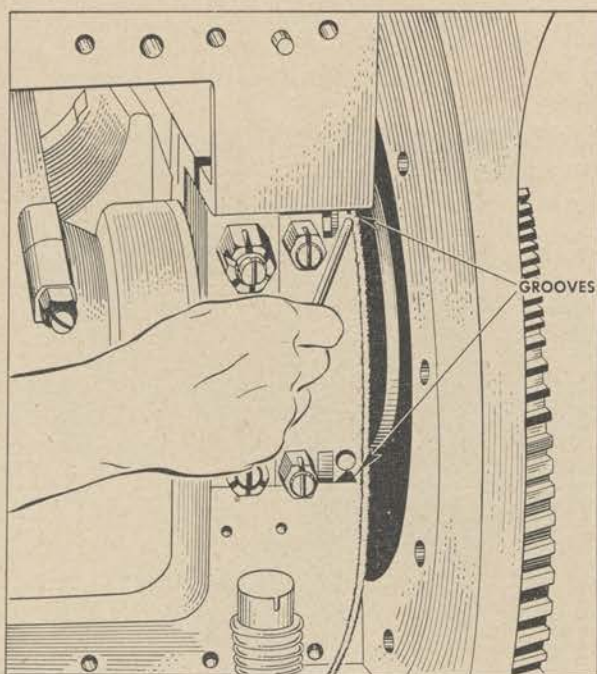

Figure 161. Rear bearing packing seal.
1. After installing the rear main bearing, and tightening the hollow head screws and nuts, seal the rear end of the bearing with packing, as shown in figure 161.
2. First, soak the packing in pitch or paint, and then fit it into the grooves (fig. 161) on each side of the cap, tamping it tightly with a hammer and a long thin punch in progressive folds until the groove is filled.